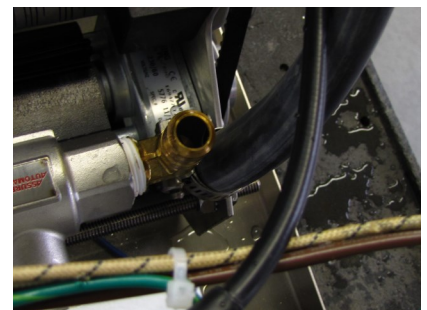

Figure 4
4. Disconnect the hose from the brass elbow as depicted in Figure 4. **IMPORTANT:** Avoid getting water from the hose in the instrument or on the electronics.